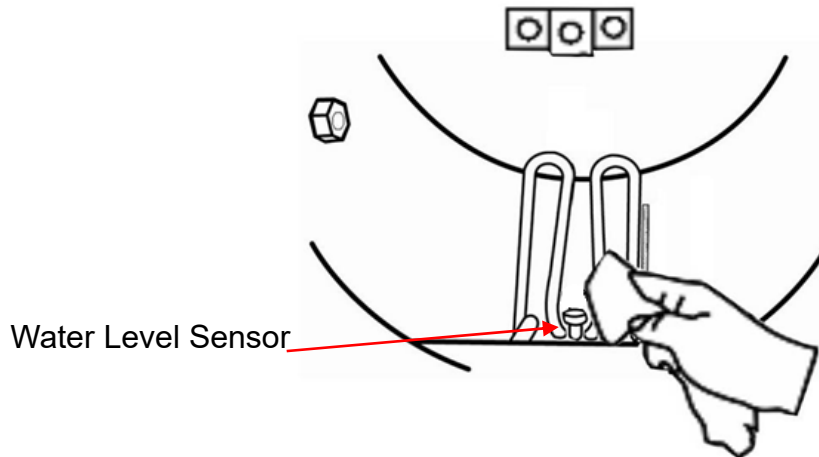

Figure 168
- Use the non-corrosive cleaner and stiff bristled brush or sponge to clean the water level sensor at the rear of the chamber as shown in Figure 168.